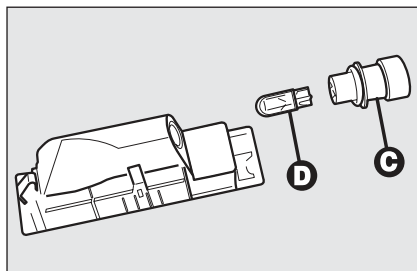

fig. 41
- ☐ remove the bulb holder **C-fig. 41** by turning it slightly and replace the snap-fitted bulb **D**.